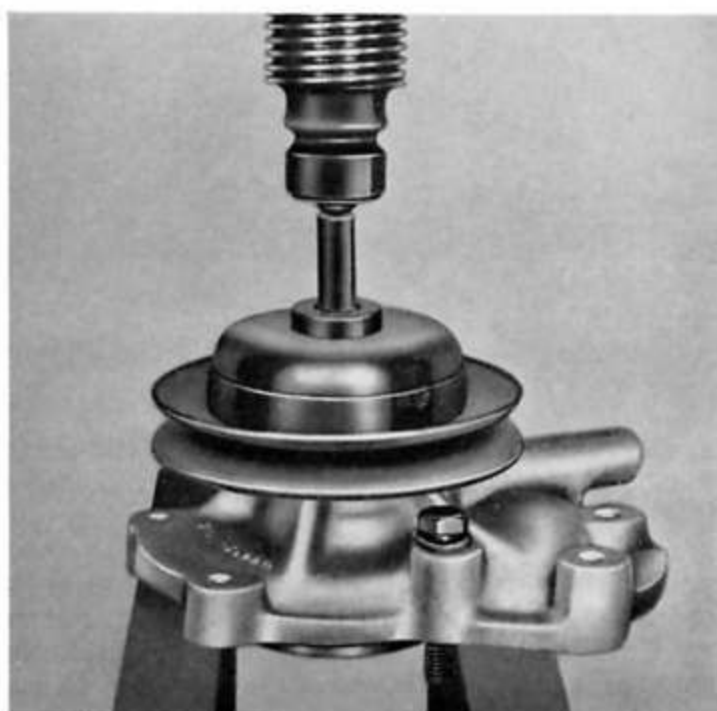

Fig. 2
3. Remove the pump pulley and shaft and bearing assembly by supporting the pump housing as shown in Fig. 2 and, using a suitable diameter rod, press out the shaft assembly.